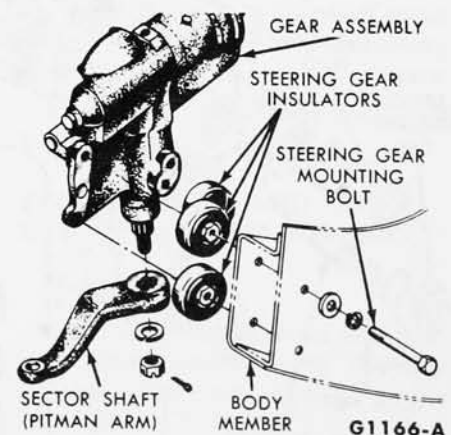

FIG. 27—Steering Gear Mountings
4. Remove the steering gear mounting bolts (Fig. 27), and pull the steering gear assembly out of the flex joint.